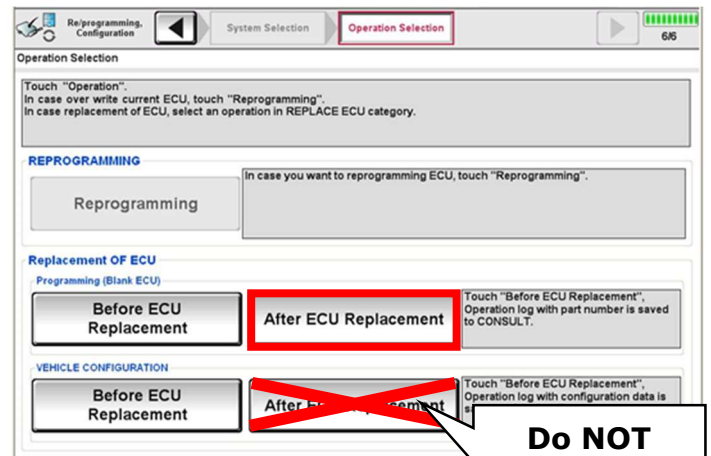

Figure 21
23. Select **After ECU Replacement** under the Programming (Blank ECU) section. (Figure 21)